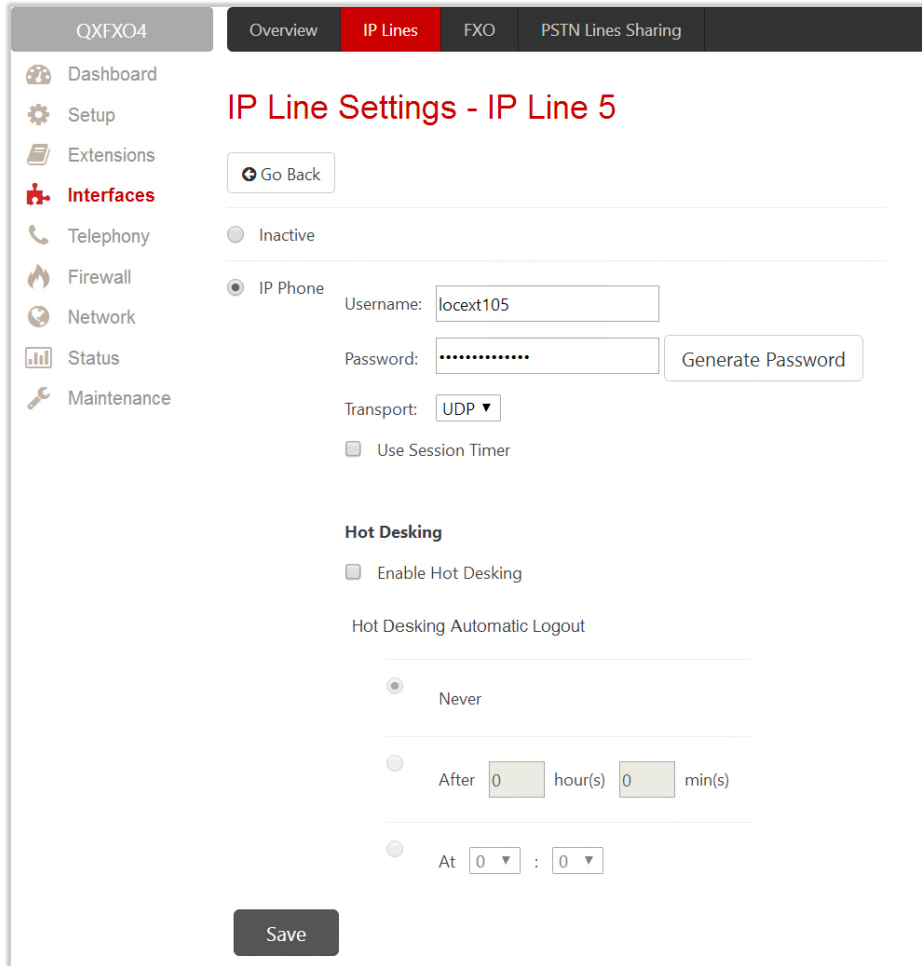

Figure 26: IP Line Settings – IP Line # page
- **Available IP Lines** – displays all IP lines available on the QX. Press a hyperlinked IP line to go to the **IP Line Settings** page (Figure 26) to configure the selected IP line.